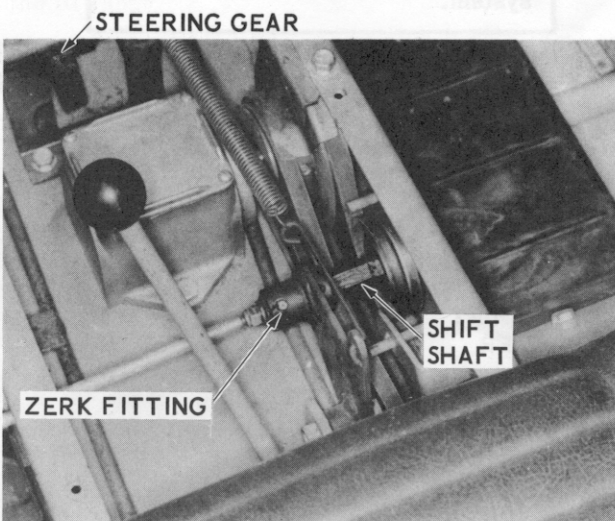

Figure 4
d. Grease the shift shaft every 25 hours of operation or once each season. See figure 4. Before greasing shaft, move the speed range control to the HI range.
e. Grease steering gears (Figure 4). Use Ariens Moly Lithium Grease.